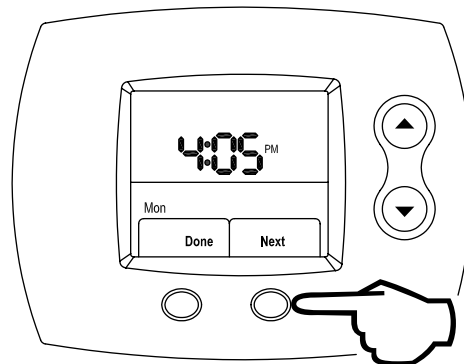

Figure 45
Step 8: Press the **RIGHT** (Next) button to proceed. This is shown in Figure 45.